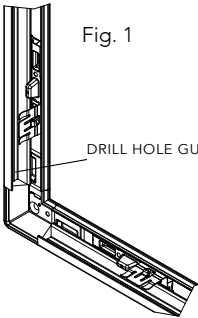

Fig. 1
1. Using the guide lines drill 4mm holes through the side of the frame for fixing (fig. 1).
- 1. Slide bracket locators into the two sides and the bottom of the Perfect Fit Universal frame (fig. 1).